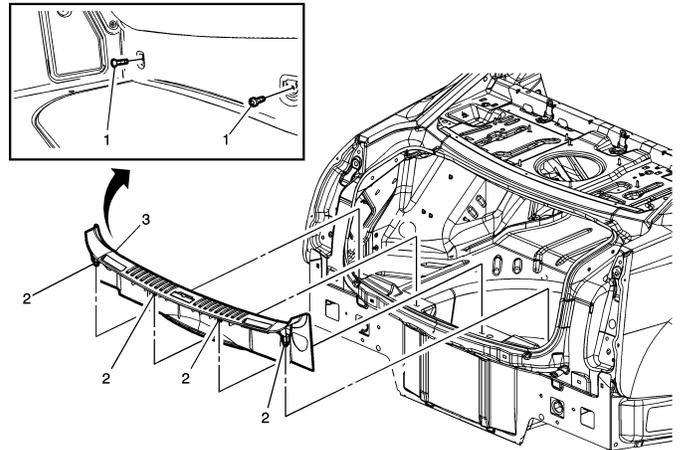

Fig. 2 Rear compartment sill trim plate removal. Sedan & coupe
6. Remove rear compartment sill trim plate, **Fig. 2**.
9. Install rear compartment sill trim plate, **Fig. 2**. **Torque** cargo tie down loop fastener (1) to 29 ft. lbs.